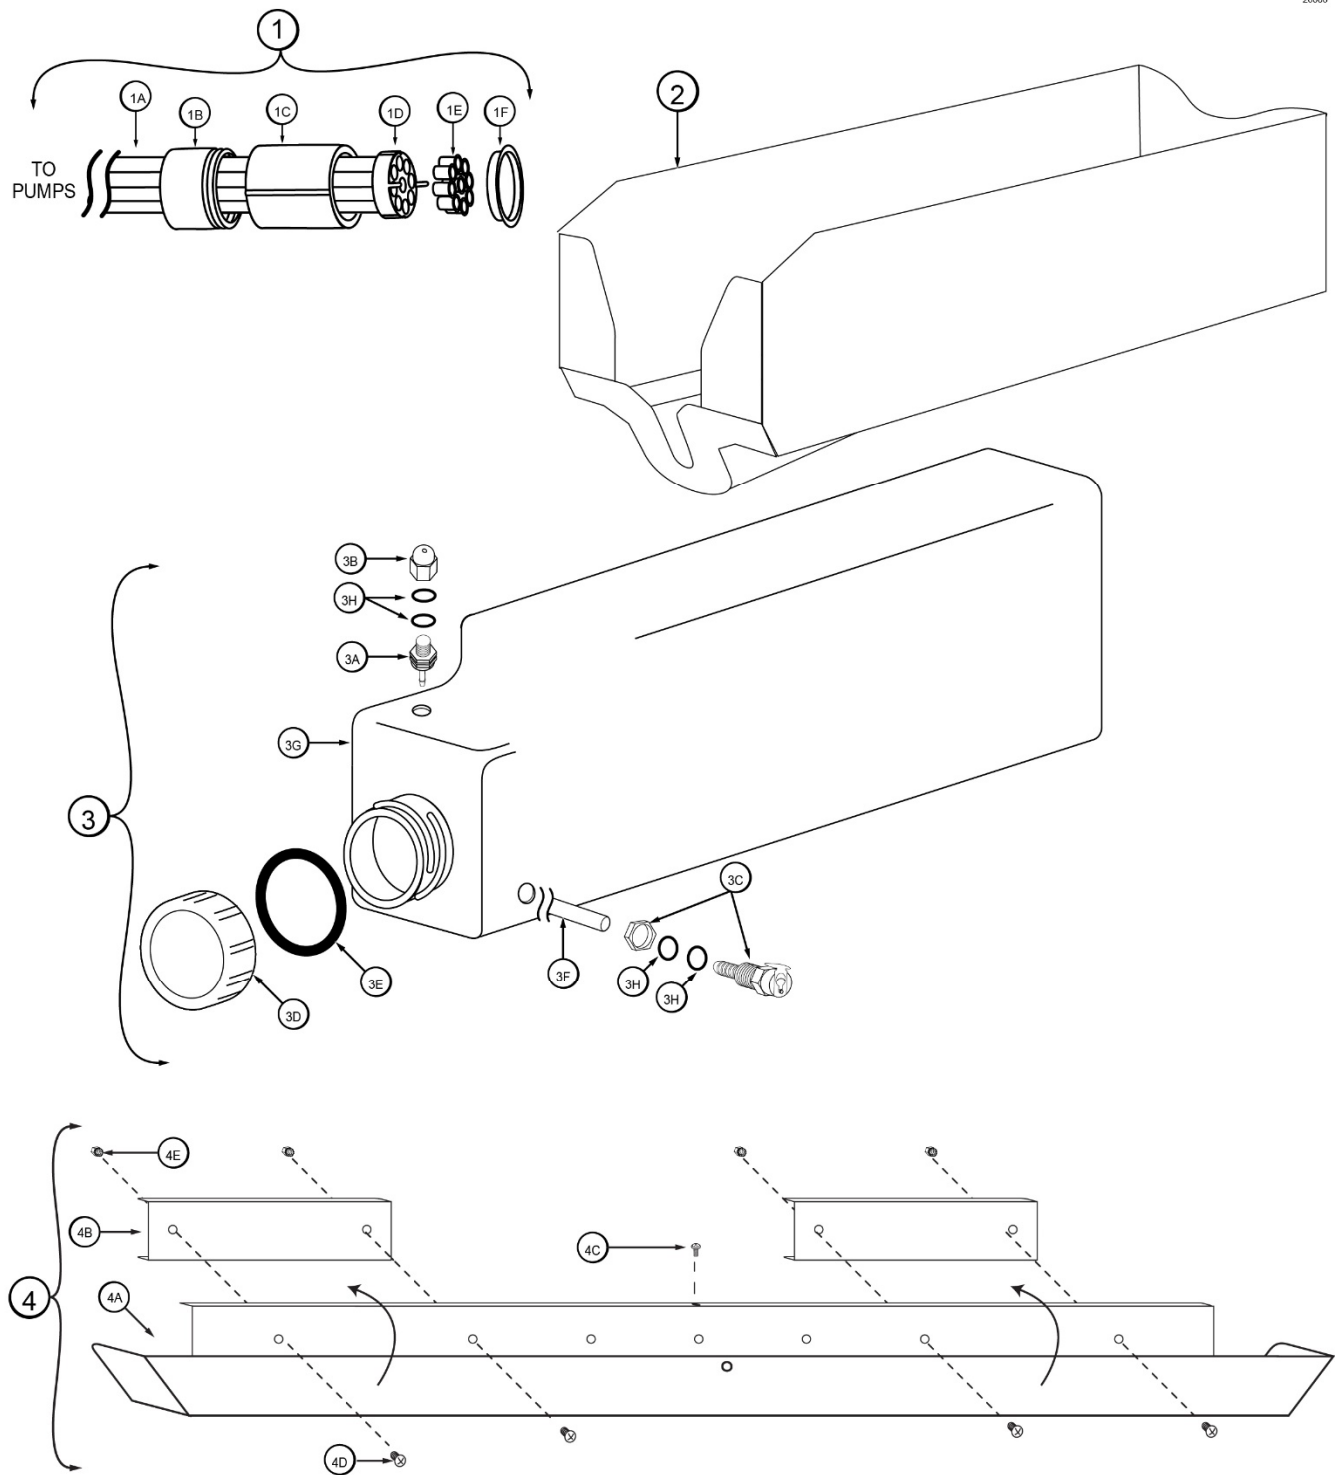

Figure 7
**Syrup Tray, Sanitizer Tank, 9-Tube Assembly Lead, and Casing (See Figure 7)**